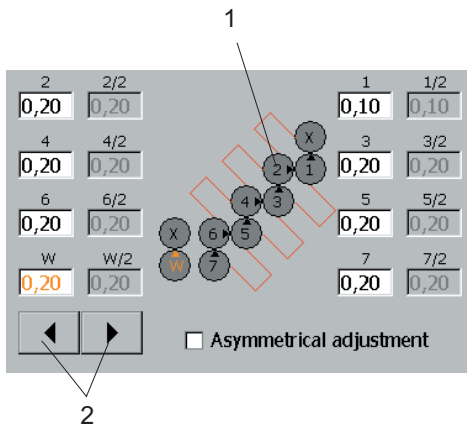

Fig. 38 Symmetrical correction
2. Select the fold roller (Fig. 38/1) for which the gap must be changed by touching the appropriate symbol (roller number and matching input window turn orange).
3. Keep pressing the *arrow* key (Fig. 38/2) until the desired correction value is reached.